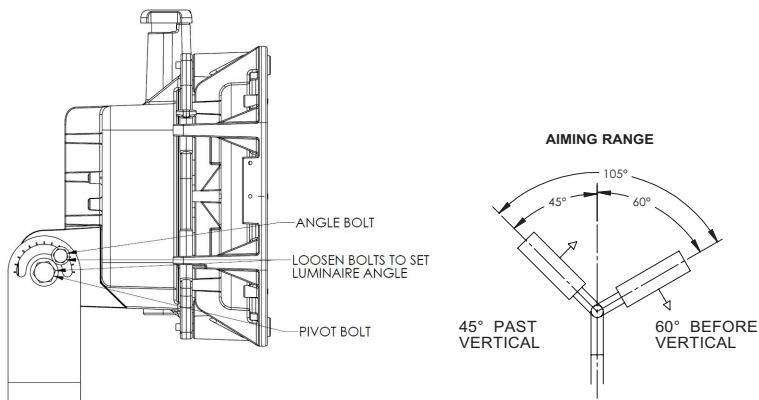

Figure 5
3. Torque ground lug fastener down on ground wire. Torque to 25 in.-lbs. [2.82 N-m], as shown in Figure 5.